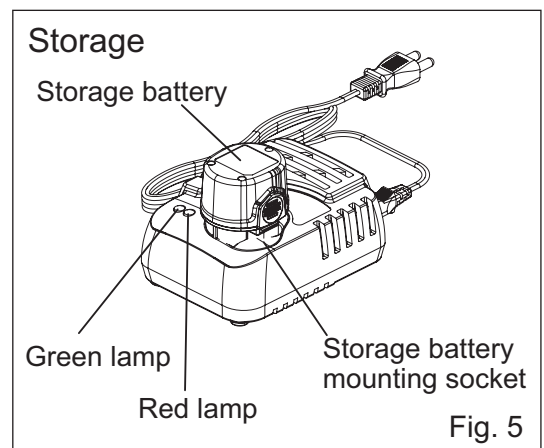

Fig. 5
3. Insert the storage battery as far as it will go into the mounting on the charger. (Fig. 5)
- The battery is fully charged when the lamp stops flashing but remains on. A full charge takes about 60 minutes in total. (Fig. 5)